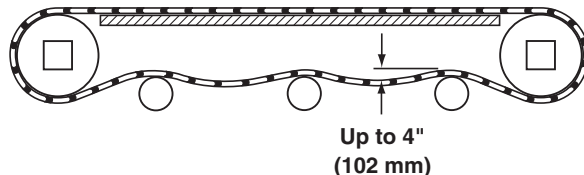

Figure 49
4. Check belt sag by measuring from the top of the return (**Figure 49**). Belt sag should not exceed 4" (102 mm). Follow steps 7 – 9 in the “Belt Installation” section on page 14 to remove slack from the belt.